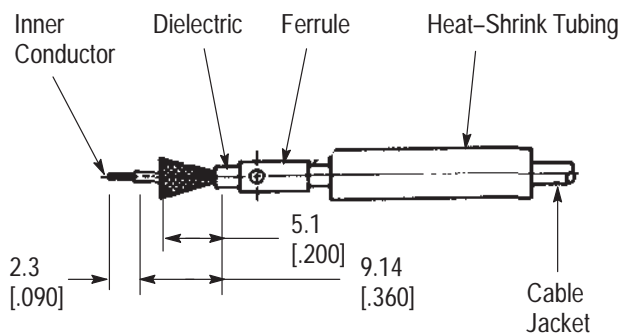

Figure 3
**2.1. Preparing the Coaxial Cable End** (Figure 3)
3. Trim the braid to the length shown in Figure 3.